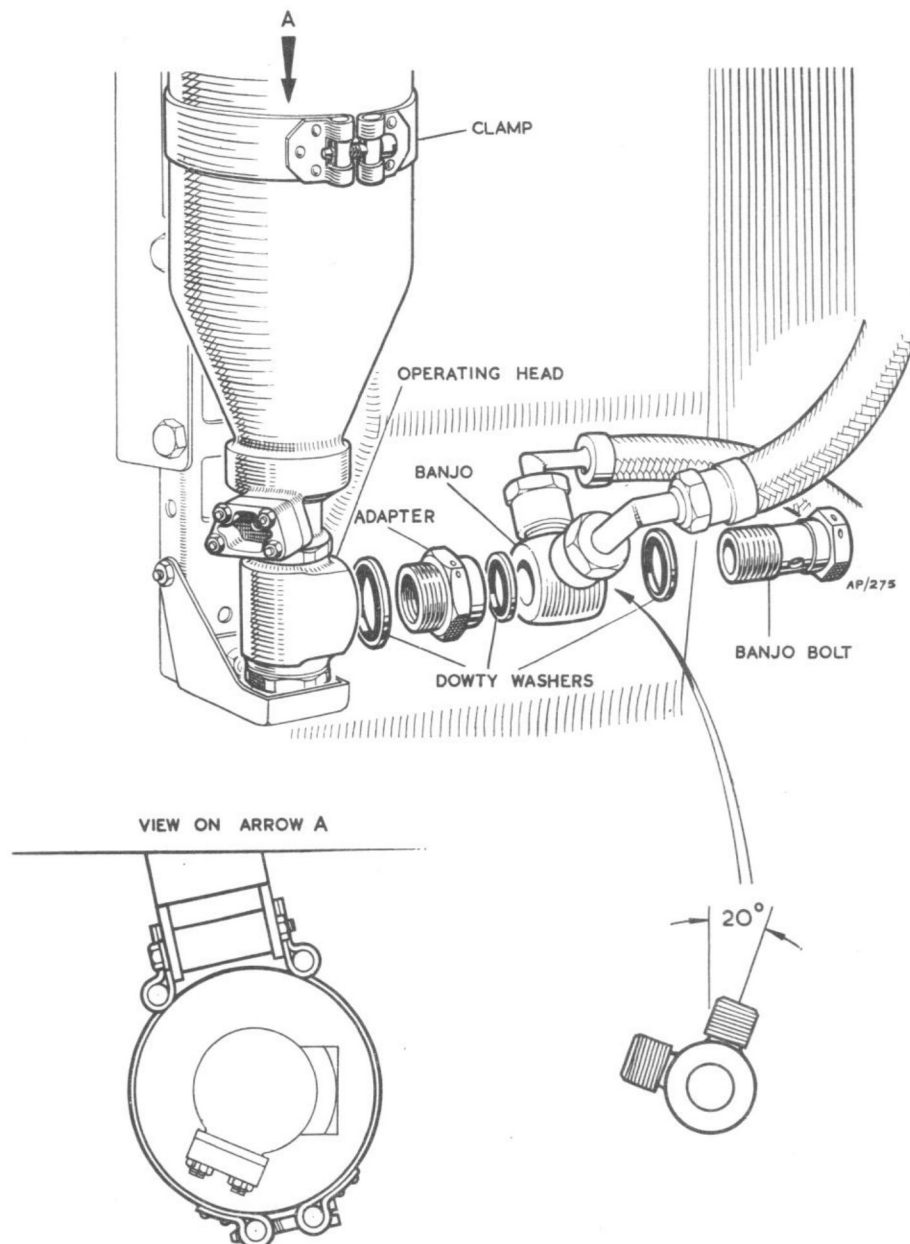

Fig. 1. Extinguisher bottle and adapter
- (1) Remove the adapter from the neck of the original extinguisher bottle, and transfer the adapter, banjo and banjo bolt to the replacement unit (para.3).
- (2) Place the bottle in the carrier bracket, making quite sure that it is correctly positioned (fig.1), and fasten the halves of the retaining strap with the securing screw.
- (3) If the operating head and electrical socket are not in correct alignment, loosen the retaining strap.
(4) Loosen the operating head lock nut.
(5) Slacken the banjo bolt and rotate the banjo union until the front flexible pipe connection is  $20^{\circ}$  above the horizontal position. Retighten the banjo bolt.